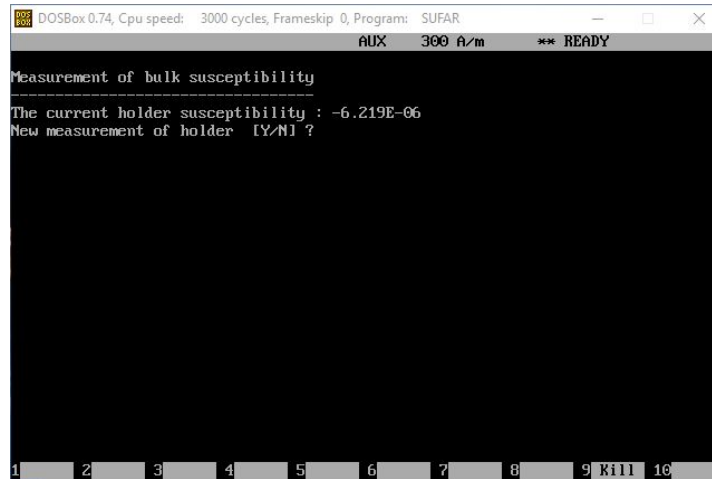

Figure 19 Prompt Window allowing user to measure the holder before bulk susceptibility measurements
3. Sufar will prompt the user to decide if new holder measurement is necessary. Enter Y or N and press return (**Figure 19**).